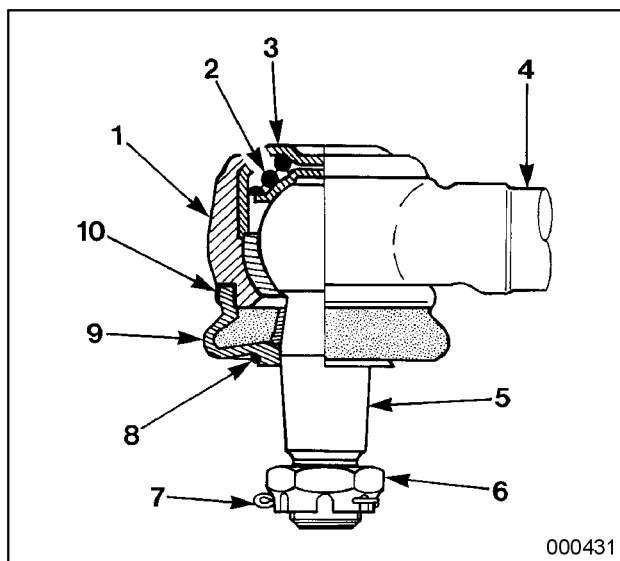

Figure 2: Typical linkage joint
4. To check exterior for corrosion - Figure 2
5. To check dust cover - Figure 2
6. To check dust cover retaining rings - Figure 2